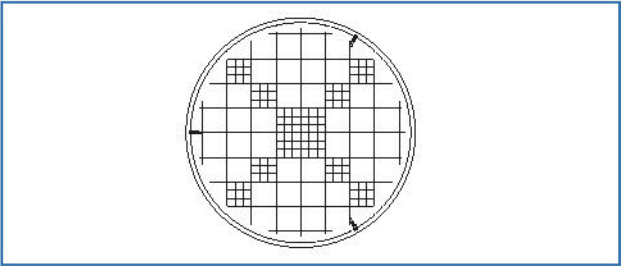

Figure 1:
- Graduation and division into 10 mm squares to enable quick and easy analysis (Fig. 1)